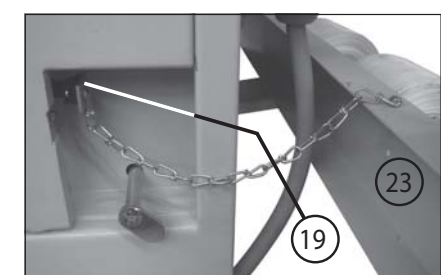

fig. 3
2. Secure the end of the chain of the baler safety switch activator (19) to the cross beam (23) of the shredder base, using the appropriate bores (fig. 3).
3. Insert the actuator (special key) of the safety switch activator (19) in the limit switch at the baler (fig. 3).
- 19 = safety switch activator (fig. 3)
- The emergency stop bar (14) is released (pull red bar at table forward)
- The key switch (2) has been unlocked (turn key clockwise)
- The mains switch (1) has been switched on (switch position "1")
- The safety switch activator (19) (fig. 3) has been inserted into the safety switch at the baler
- The inlet flap (30), the discharge flap (31) and the cover flap (27) are closed.